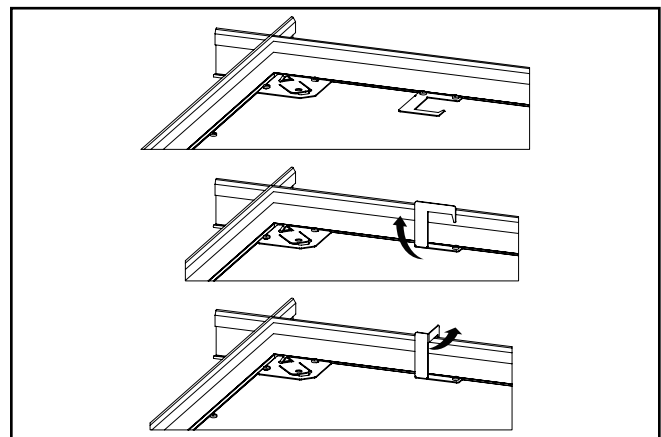

Figure 4.
6. Grid clips are provided for additional retention to ceiling system. Orient 4 tabs on back of fixture over T-GRID by bending tabs up 90 degrees perpendicular to back of fixture. Next bend tabs 90 degrees towards T-GRID frame. (Figure 4.)